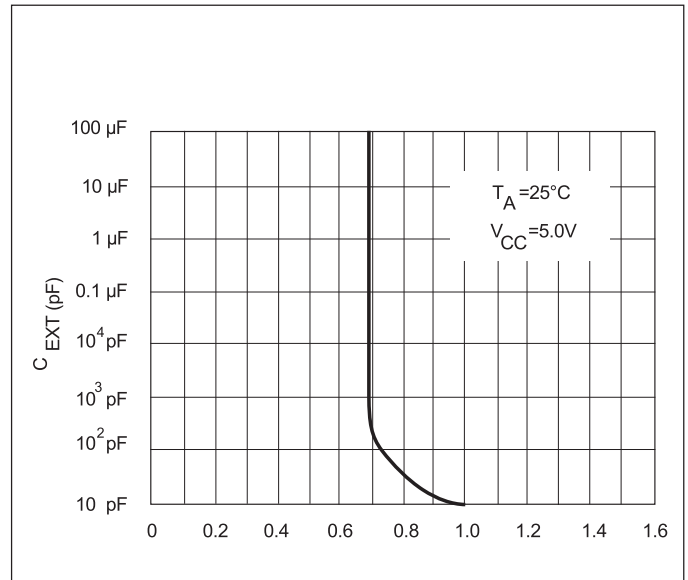

Figure 7. "K" Coefficient
**NOTE:** The "K" coefficient is not a constant, but varies as a function of the timing capacitor,  $C_X$ . Figure 7 details this characteristic.